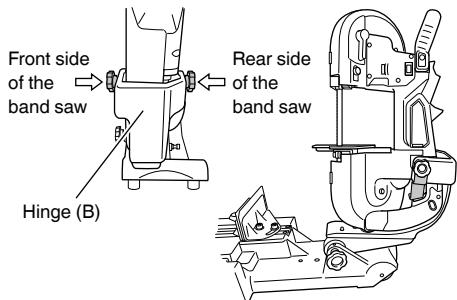

Fig. 5
(7) Check that the D6 knob bolt on the rear side is correctly tightened, and that the main tool unit is securely installed on the stand. (Fig. 5)